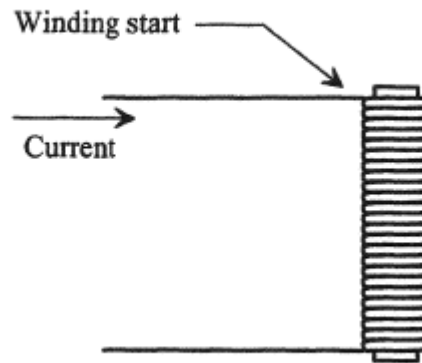

Figure 5
7. Based on your results sketch the solenoid's field pattern. Use the layout shown in Figure 5.